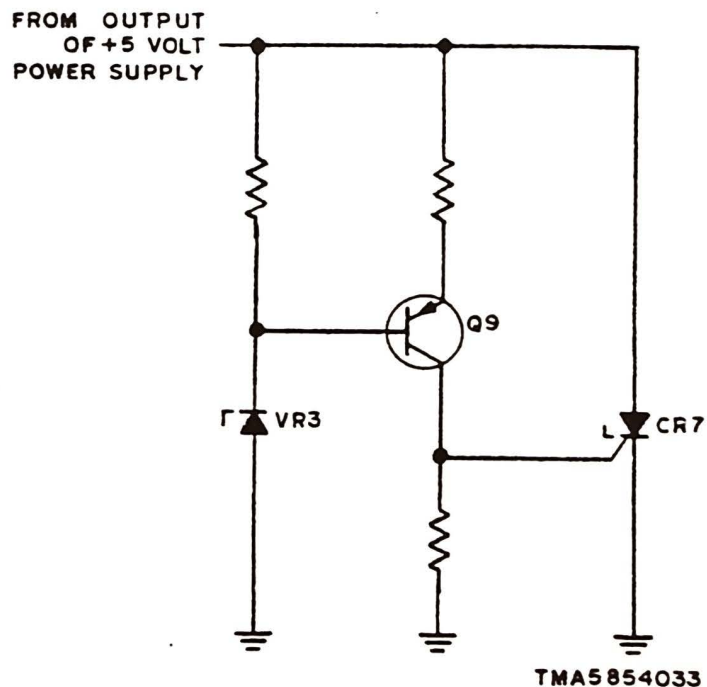

Fig. 25 - Over-Voltage Protection Network
(E) Power Supply Circuits (Fig. 25 and 26)
3.80 The over-voltage protection circuit (Fig. 25) functions in the following manner. Under normal operating conditions Zener diode VR3 is back-biased (nonconducting), thereby keeping transistor Q9 in a cut-off state. The SCR (CR7) is thereby also nonconducting, since its gate electrode is at ground (0-volt) potential when Q9 is nonconducting. Any over-voltage condition of greater than 7.5 volts will cause Zener VR3 to break down and will thereby turn on both Q9 and CR7 to full conduction. The fully conducting SCR effectively short-circuits the power supply and blows dc fuse F3, which is located at the input to the series regulator stage. This removes the supply from service. The circuit operates automatically and is self-resetting after the fuse is replaced and the fault condition is remedied.